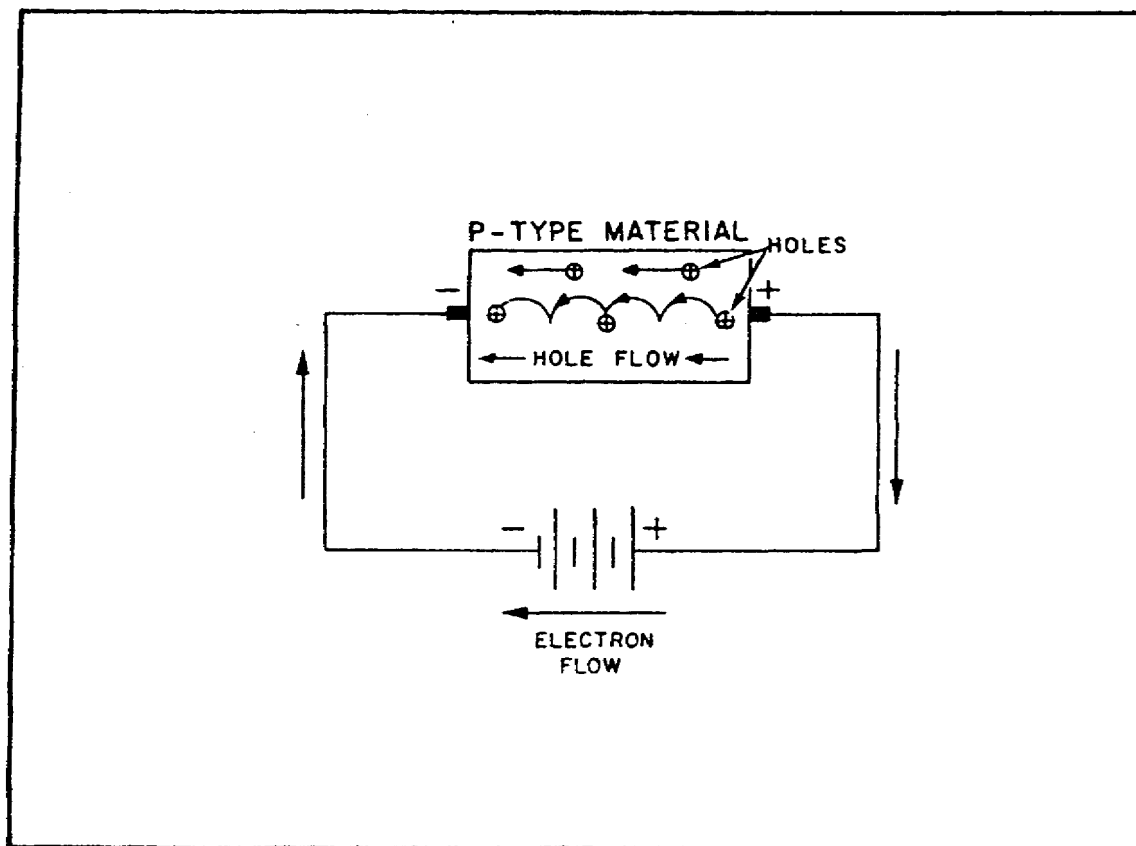

FIGURE 80. CURRENT FLOW IN THE P-TYPE MATERIAL.
(2) *Current Flow in the P-Type Material.* Current flow in a P-type material is by positive holes, instead of negative electrons. Unlike the electron, the hole moves from the positive terminal of the P material to the negative terminal (figure 80 on the following page).